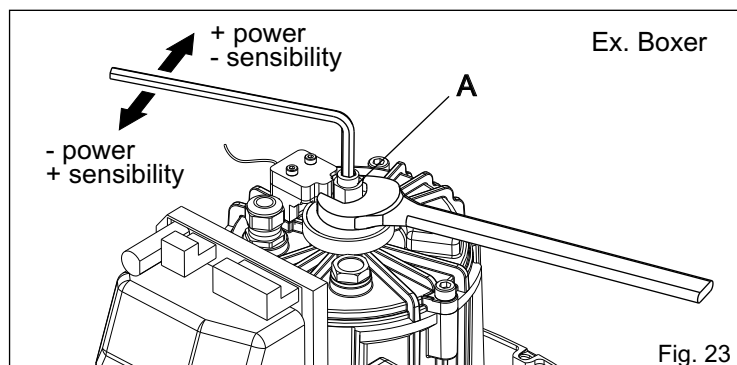

Fig. 23
- Act on the scrub screw "A" (Fig. 23) as follows: